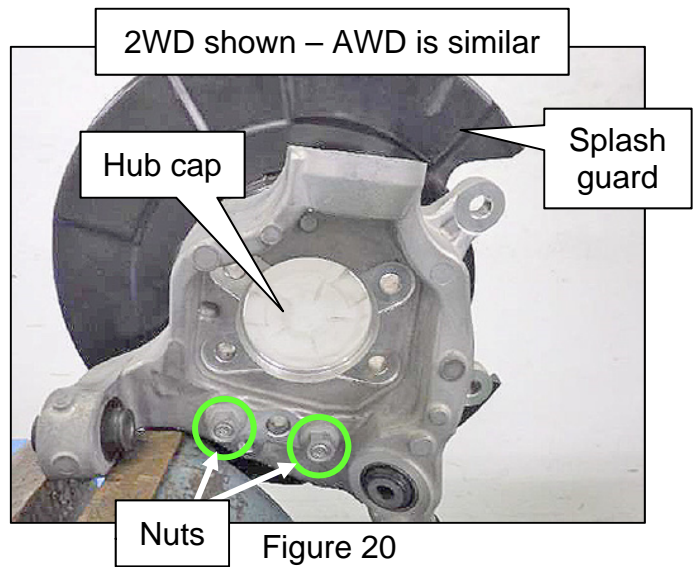
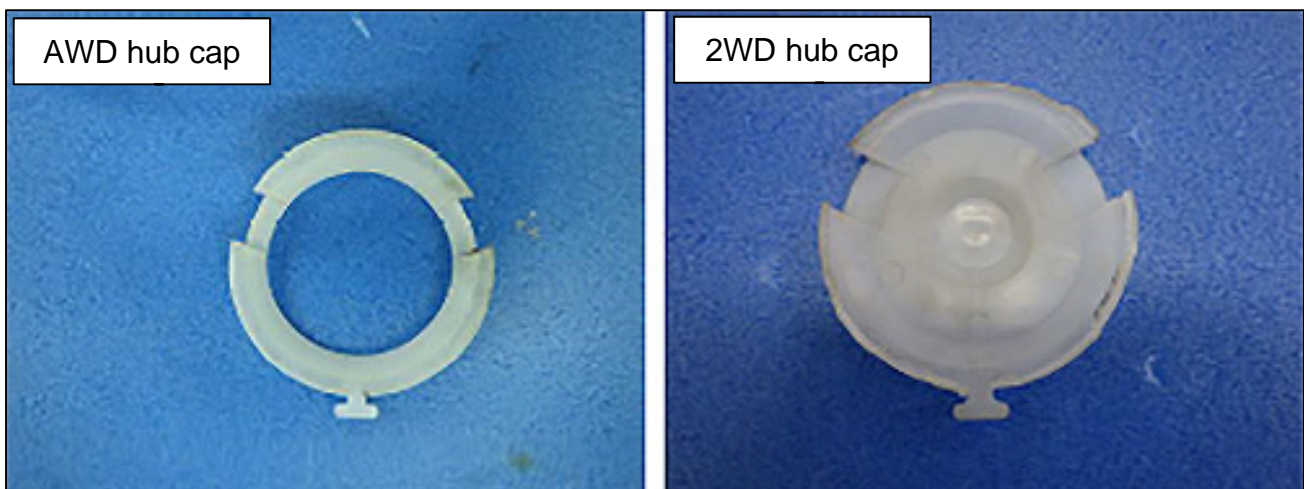

Figure 20
Figure 21
- 27. Separate the hub cap from the rear knuckle (Figure 20 and Figure 21).